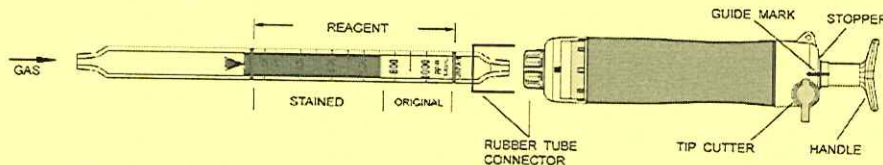

Fig.2
- ② Insert the detector tube into the aspirating pump securely as shown in Fig.2. (Arrow mark shall point to the pump.)
- ③ Align the guide marks on the shaft and stopper of the aspirating pump.
- ④ Pull the pump handle at a full stroke until it locks and wait for 1.5 minutes or until the completion is confirmed with the flow indicator of the pump. (See descriptions about the flow indicator in the